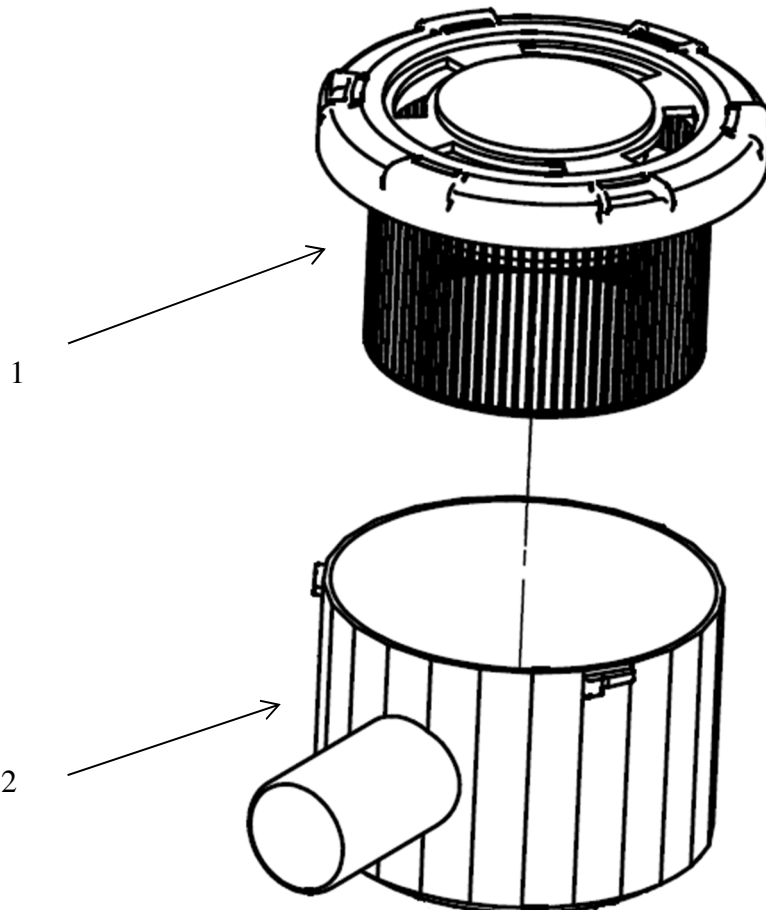

Fig. 3-3 SCI8DT05 Integrated Compressor–Intake air filter
PROCEDURE: 1. Replace air intake filter (refer to figure 3-3) a. Unscrew and remove air intake filter (1) from its housing (2). b. Replace new air filter cartridge (1) in its housing (2).